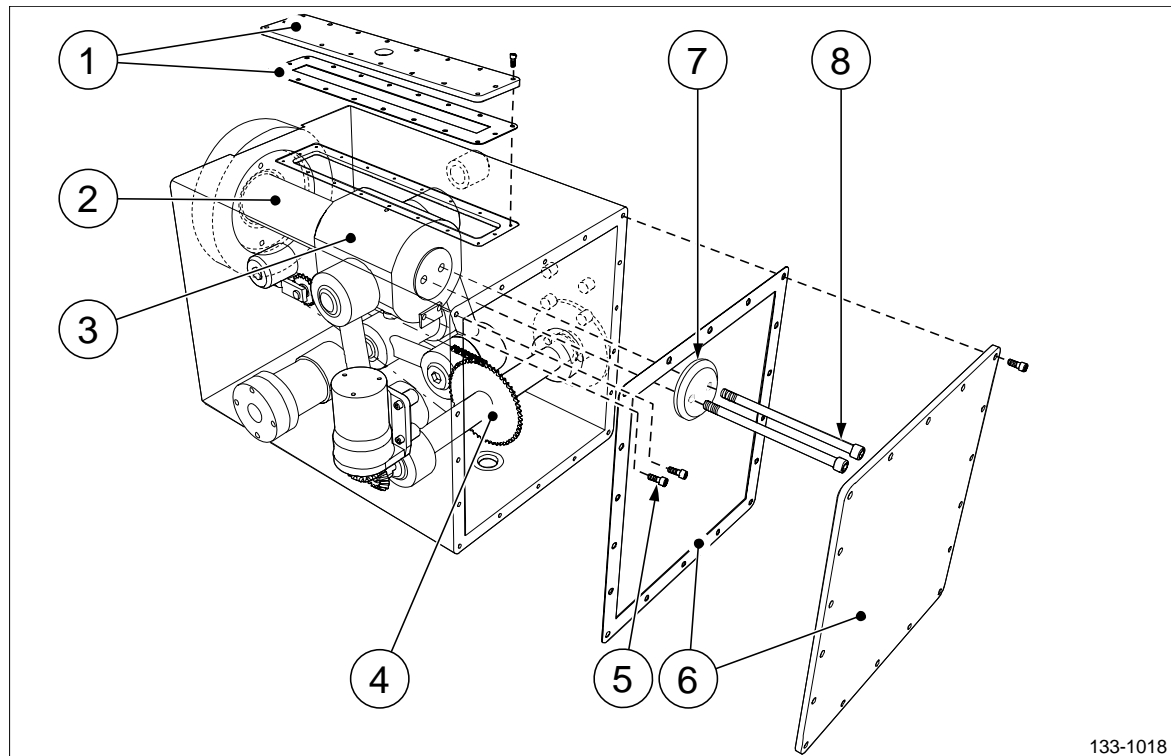

Figure 2 Preparing an OD-box (FA) for emergency pitch control mode 2.
7. Open the OD-box end cover (pos 5, figure 2) and disconnect the feed back chain holder on the OD-box ring, remove the two screws (pos 5, figure 2).
8. Prepare a safe way to lower and remove the box ring and the stub shaft (pos 2 and 3, figure 2).
9. Remove the retaining screws (pos 7, figure 2) and the end plate (pos 9, figure 2).